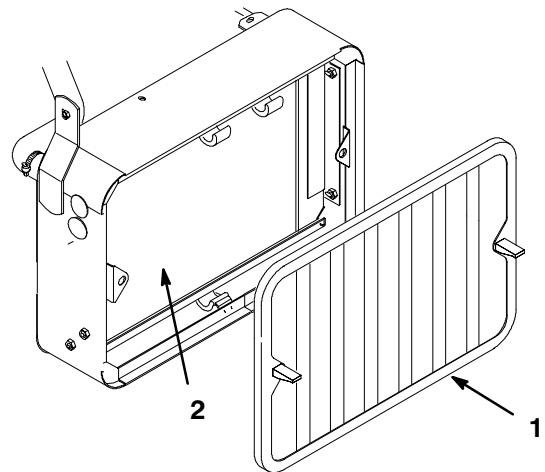

Figure 34
1. Remove the radiator screen (Fig. 34).